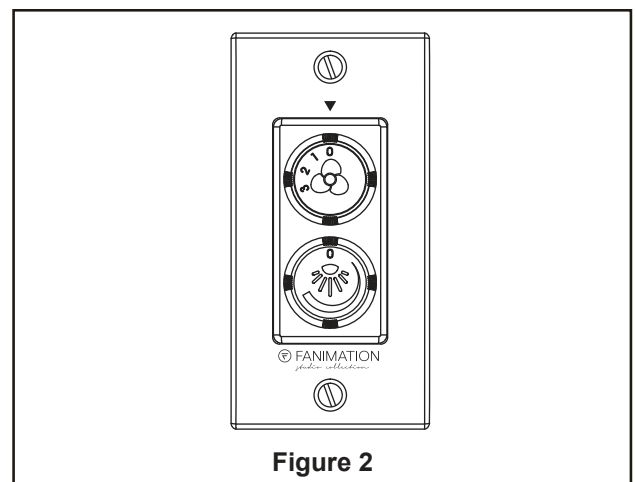

Figure 2
2. Wall control functions: (Figure 2)